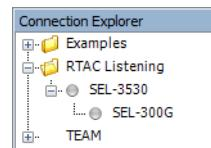

Figure 169 Connection Explorer
Step 9. Right-click on **SEL-3530** to add a relay by using the same process as in *Step 8*. Add the **SEL-300G**, as shown in *Figure 169*.